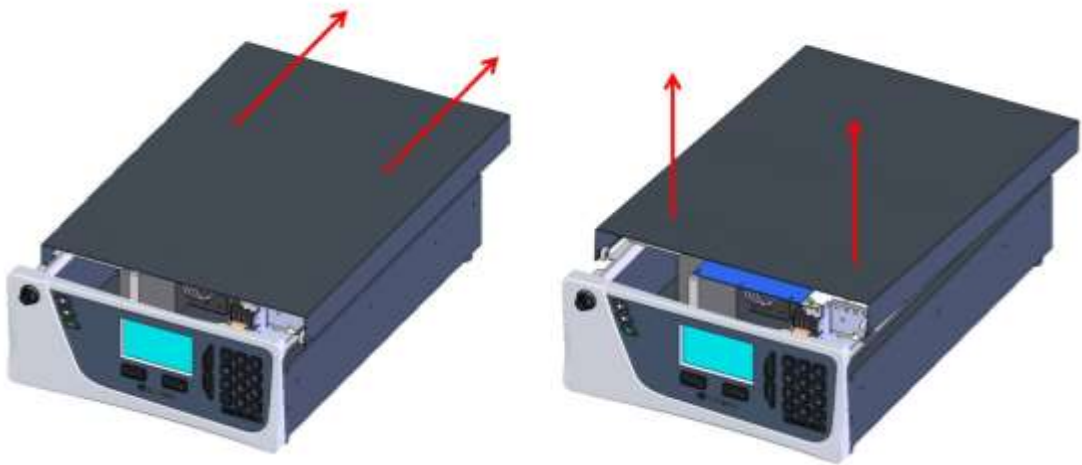

Figure 14 – Opening the Instrument
3. To completely remove the lid, slide the lid backwards until the rollers line up with the gaps in the track and pull the lid upwards to remove from the instrument (refer to Figure 14).